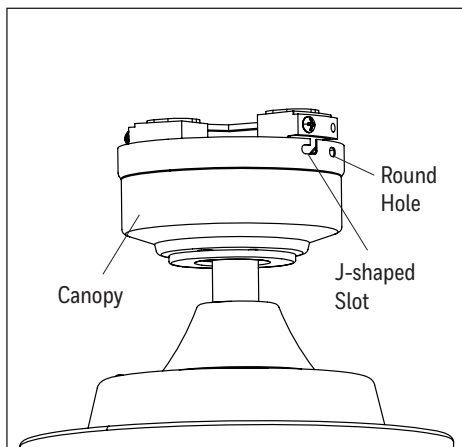

Figure 5.2
- Align the canopy over the loosened mounting bracket screws. Place the J-shaped slot of the canopy onto the mount bracket screws and rotate clockwise (Figure 5.2).